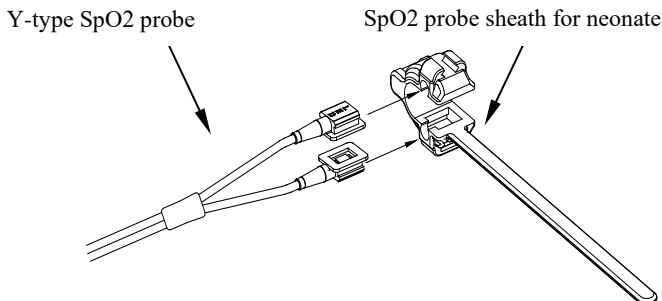
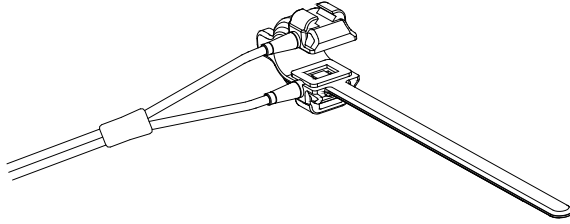

Figure 9-2 Neonatal SpO₂ sensor (1)
Figure 9-3 Neonatal SpO₂ sensor (2)
- A Neonatal oxygen probe consists of the Y-shaped blood-oxygen probe and neonatal oxygen probe sheath. Insert the LED side of the Y-shaped probe in the upper groove of the sheath, and respectively the PD side of the probe within the lower (See Figure 9-2), then the neonatal blood-oxygen probe as shown in Figure 9-3.